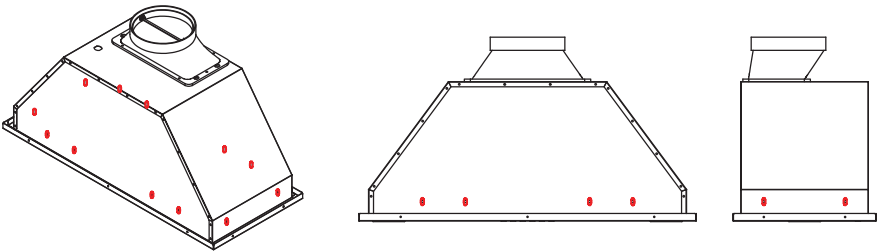

Figure 4
- 6 The hood could be installed a front and rear stud support, it also could be installed a left and right stud support. Front side and rear side have 8 holes, each side has 4 holes, left side and right side have 4 holes, each side has 2 holes refer to Figure 4.
- 8 Secure the hood using the screw holes that are located at the front and back or left and right of the unit (screws provided). Refer to Figure 4.